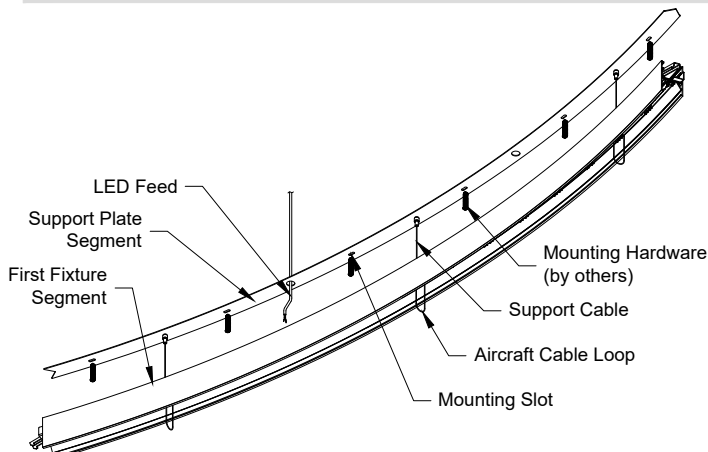

Fig. 9. Fixture Segment.
2. Put LED feed(s) from remote enclosure(s) through support plate feed hole(s). Bring the first fixture segment to the first support plate segment. Lift and slide one lens on top of another for cable loop access. Temporarily support segment till support cables securely attached to support plate (Fig. 9). Level segment by pulling aircraft cable tips as described on the page 1 (see Fig. 4 for details). Splice LED feed to segment's pigtail.